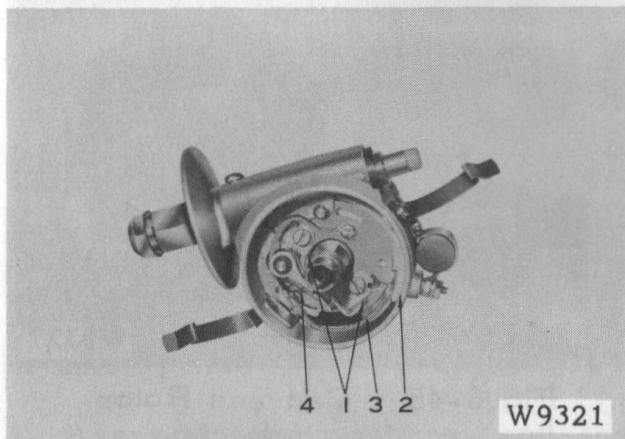

Fig. 6-38 Removing Breaker Points
1. Remove the distributor cap (1).
2. Remove the rotor (2).
3. Remove the dust-proof cover (3).
5. Remove the breaker point attaching screws (1), and the terminal (2). Next remove the snap ring, then remove the breaker point support arm (3), with the breaker arm (4). (Refer figure 6-38).